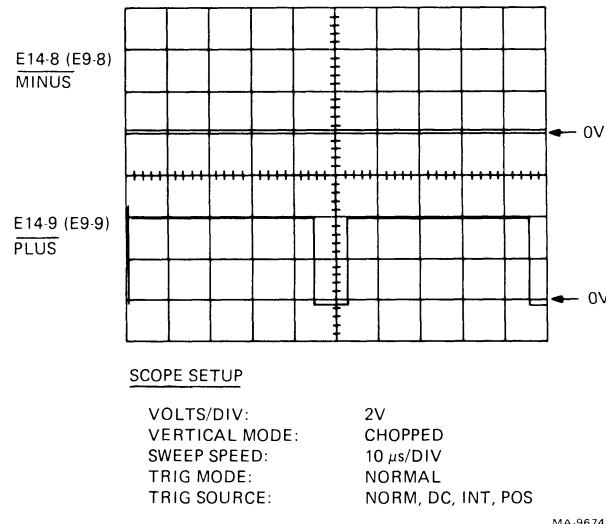

Figure 6-8 DC Servo Motor Being Driven Right-to-Left during Carriage Return
17. Change the scope settings to; Sweep: 10  $\mu$ s/DIV and NORMAL trigger source. The waveform on the scope during a right-to-left carriage return should match the waveform in Figure 6-8.